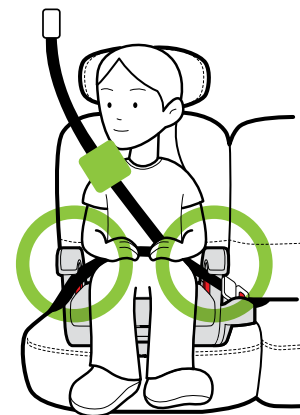

Figure 60
- When sitting on this booster seat, the shoulder belt **MUST** lie snugly across the mid point of the child's chest and across the center of the shoulder in the **GREEN** zone, as shown in **Figure 60**.